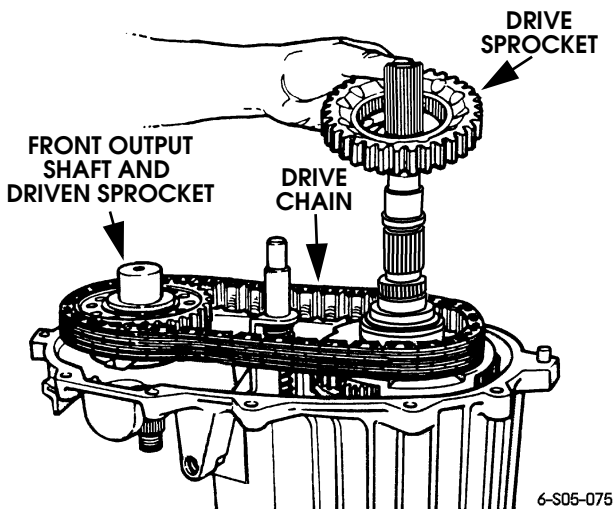

Figure 5-156: Drive Chain and Sprocket Installation
25. Install front output shaft and driven sprocket. Then install drive chain (Figure 5-156).
26. Install drive sprocket. Slide sprocket down onto mainshaft. Engage sprocket in chain and work it onto mainshaft splines (Figure 5-156).